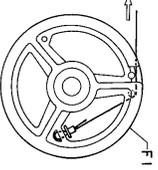

Fig. 5.4
- (1) Referring to Fig. 5.4, set a dial thread from the front-end side of F1 (Front-end Pulley 430) to the protrusion of F1.